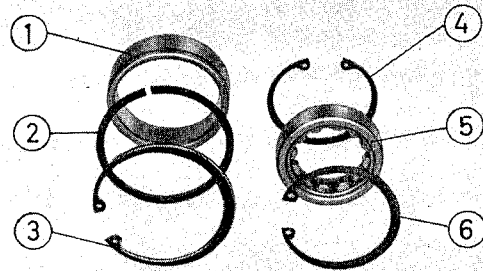

Fig. 38
19. Remove both lock rings from the bearing race of the main shaft and the lock ring inside the gear box from the bearing race of the pinion shaft (Fig. 38 and 39).
9. Install lock rings on both bearings (Fig. 38 and 39).